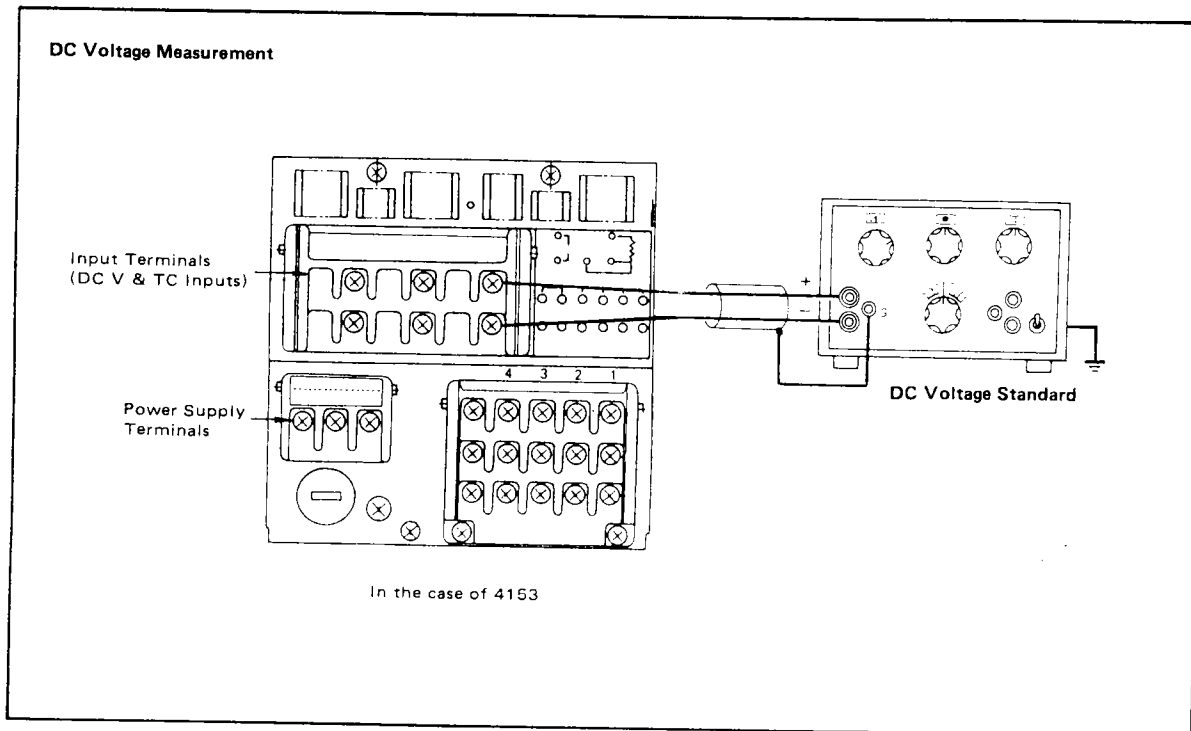

Figure 6-6.
- (1) Connect calibration instrument to the input terminals as shown in Figures 6-6 to 6-8 and allow the instrument to warm up thoroughly.*
- (2) Check that the ambient temperature and humidity are within the normal operating conditions (see Normal Operating Conditions on page 2-5).
- (3) Apply input corresponding to 0, 50 and 100 percentage points on entered setting range, and calculate errors from reading on the recording chart.